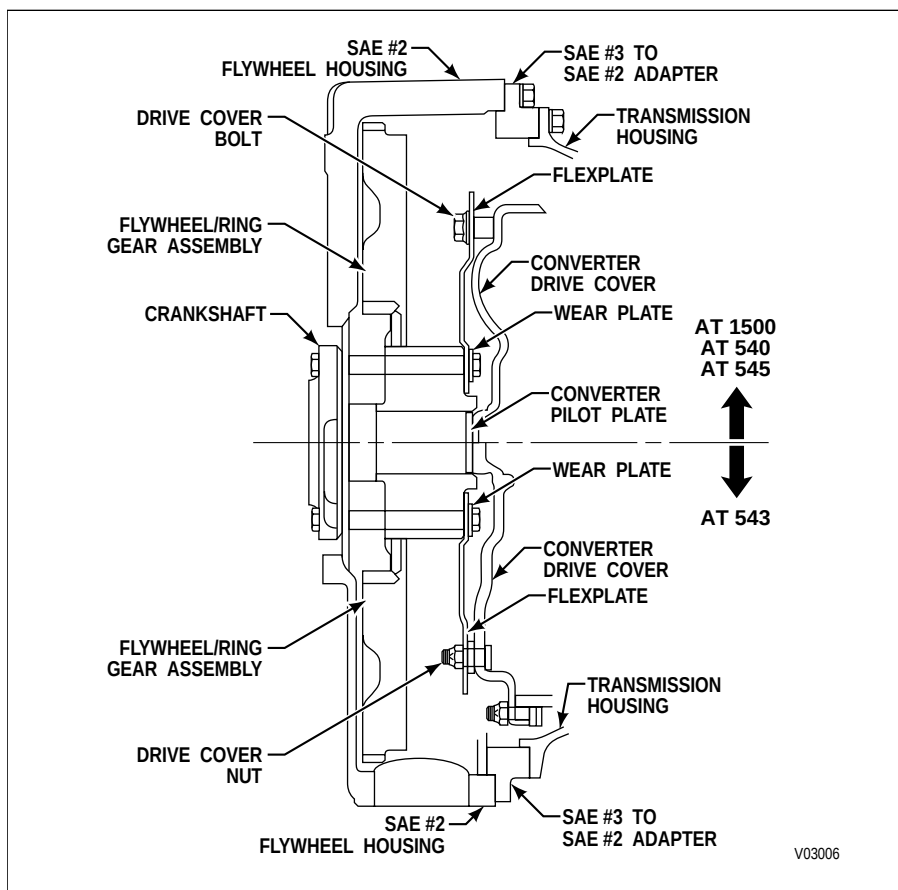

Figure 2-1. Typical Coupling Methods
- Figure 2-1 shows two typical methods of coupling the engine and transmission. Remove the six drive cover bolts (all models except AT 543), or six flexplate nuts (AT 543).
NOTE: When an adapter is used to adapt the transmission to a larger engine flywheel housing (Figure 2-1), remove only the transmission-to-adapter bolts.